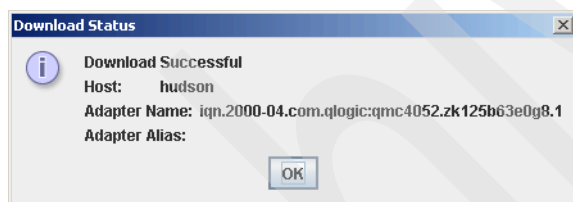

Figure 21-28 SANsurfer - BIOS download status
6. The BIOS update is now performed. You will see a message similar to Figure 21-28 when the update has finished successfully. Click **OK**.